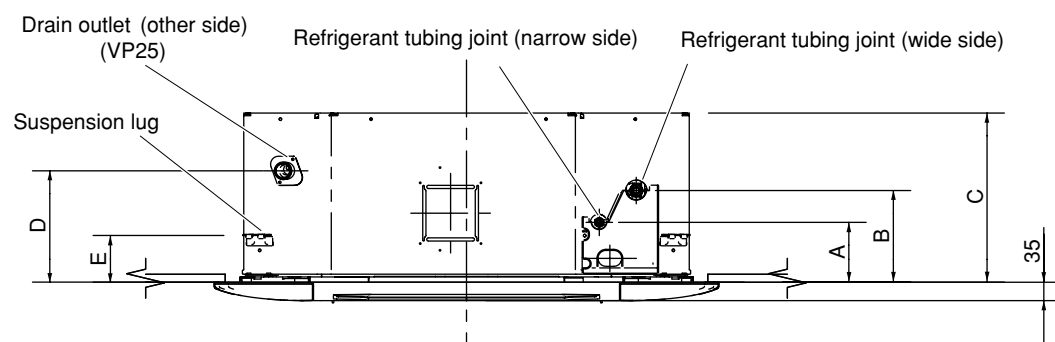

Fig. 3-50
- (3) Determine the pitch of the suspension bolts using the supplied full-scale installation diagram. The diagram and table (Fig. 3-50 and Table 3-4) show the relationship between the positions of the suspension fitting, unit, and panel.